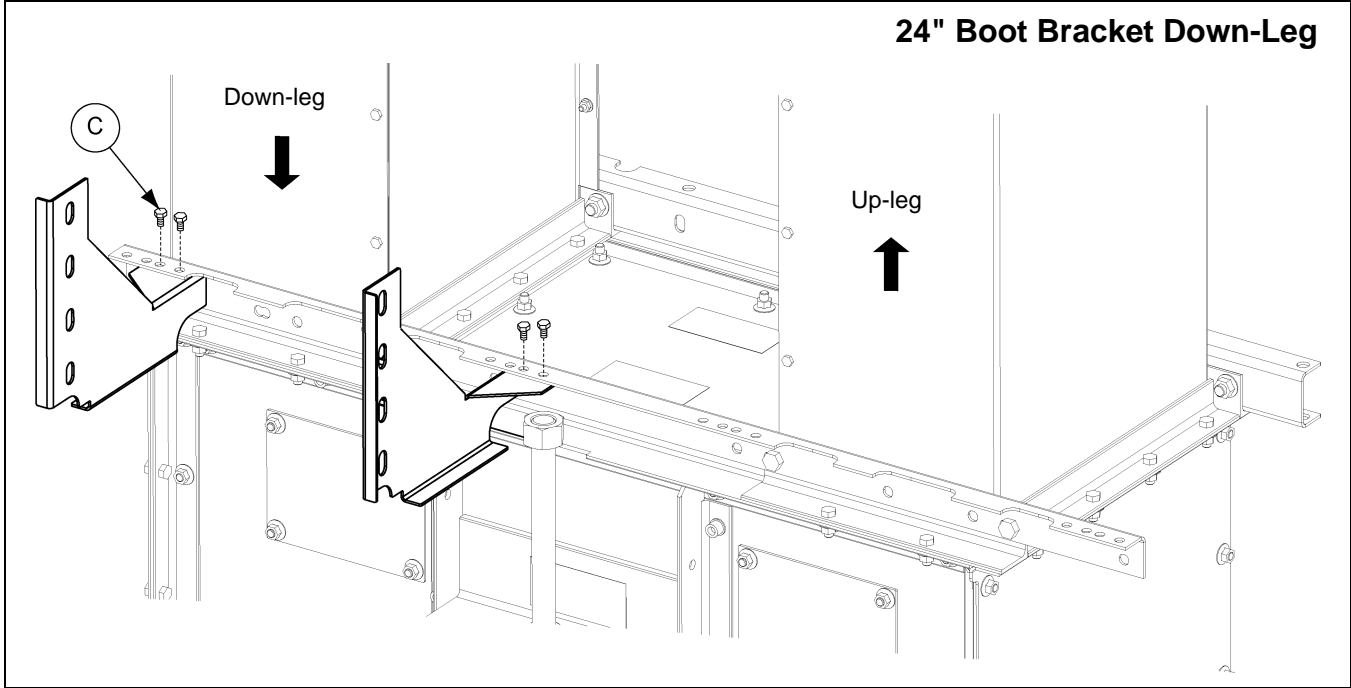

Figure 6E 24" Boot Bracket Down-Leg
- c. **24" Down-leg boot bracket:** Use 3/8" x 1" hex bolts to attach the ladder support brackets to the boot tie angle using the holes indicated in *Figure 6E*. Note the outer bracket will have two (2) empty holes to the outside of the connection at the tie angle.